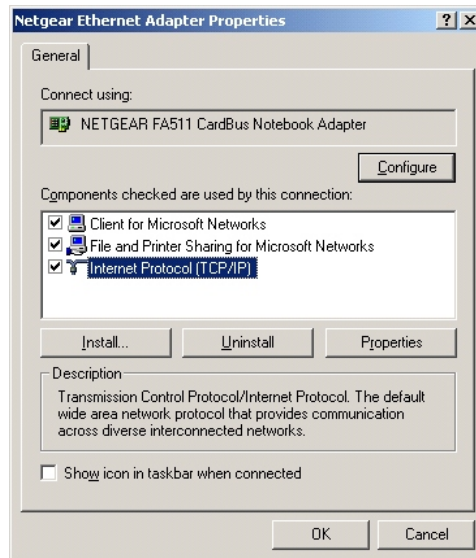

Figure A-1.4
4. Double click the icon **Internet Protocol (TCP/IP)** (see Figure A-1.4).